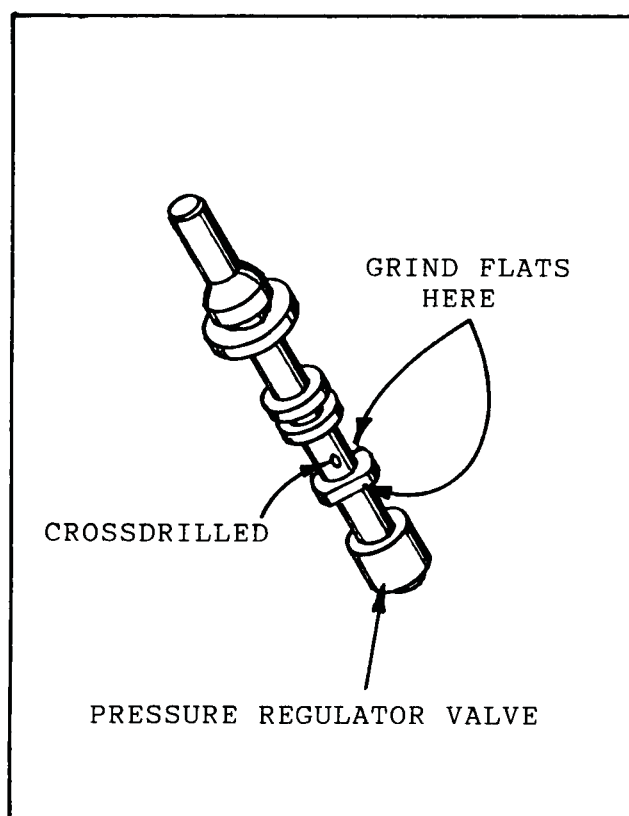

Figure 101
22. Grind two "Flats" on the second land of the pressure regulator valve as shown in Figure 101.
23. Make sure you use a pressure regulator valve that is cross-drilled as shown in Figure 101. The crossdrilled valve is available under OEM #8637546.